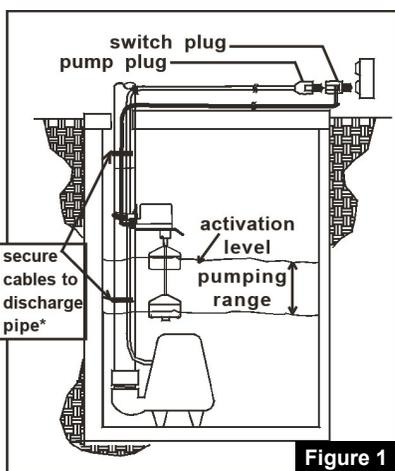

Figure 1
1. Determine desired activation level and pumping range as shown in Figure 1. Pumping range can be adjusted by moving the float stop up or down on the float rod.
5. Secure the excess pump cable and switch cable to discharge pipe as shown in Figure 1*.